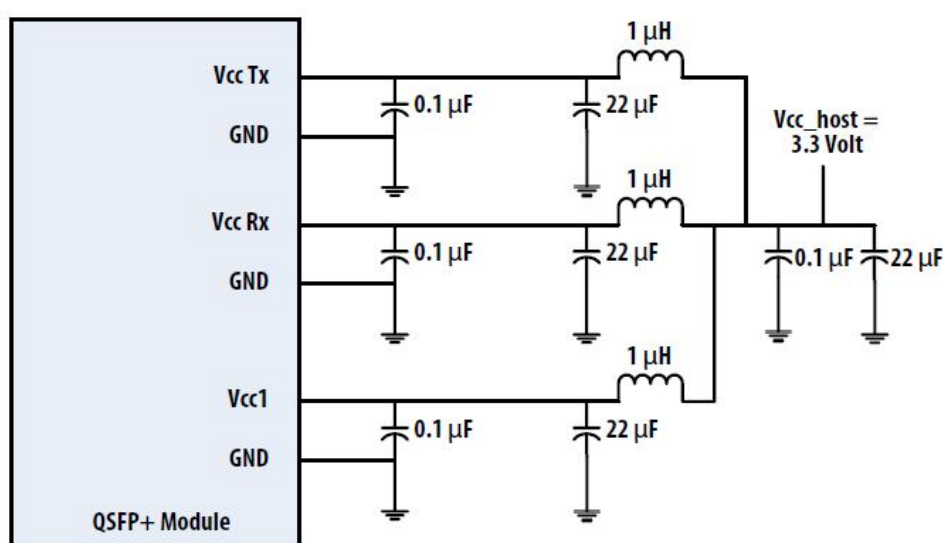

Figure 3. Recommended Power Supply Filter
2. VccRx, Vcc1 and VccTx are the receiving and transmission power suppliers and shall be applied concurrently. Recommended host board power supply filtering is shown in Figure 3 below. Vcc Rx, Vcc1 and Vcc Tx may be internally connected within the module in any combination. The connector pins are each rated for a maximum current of 1000mA.